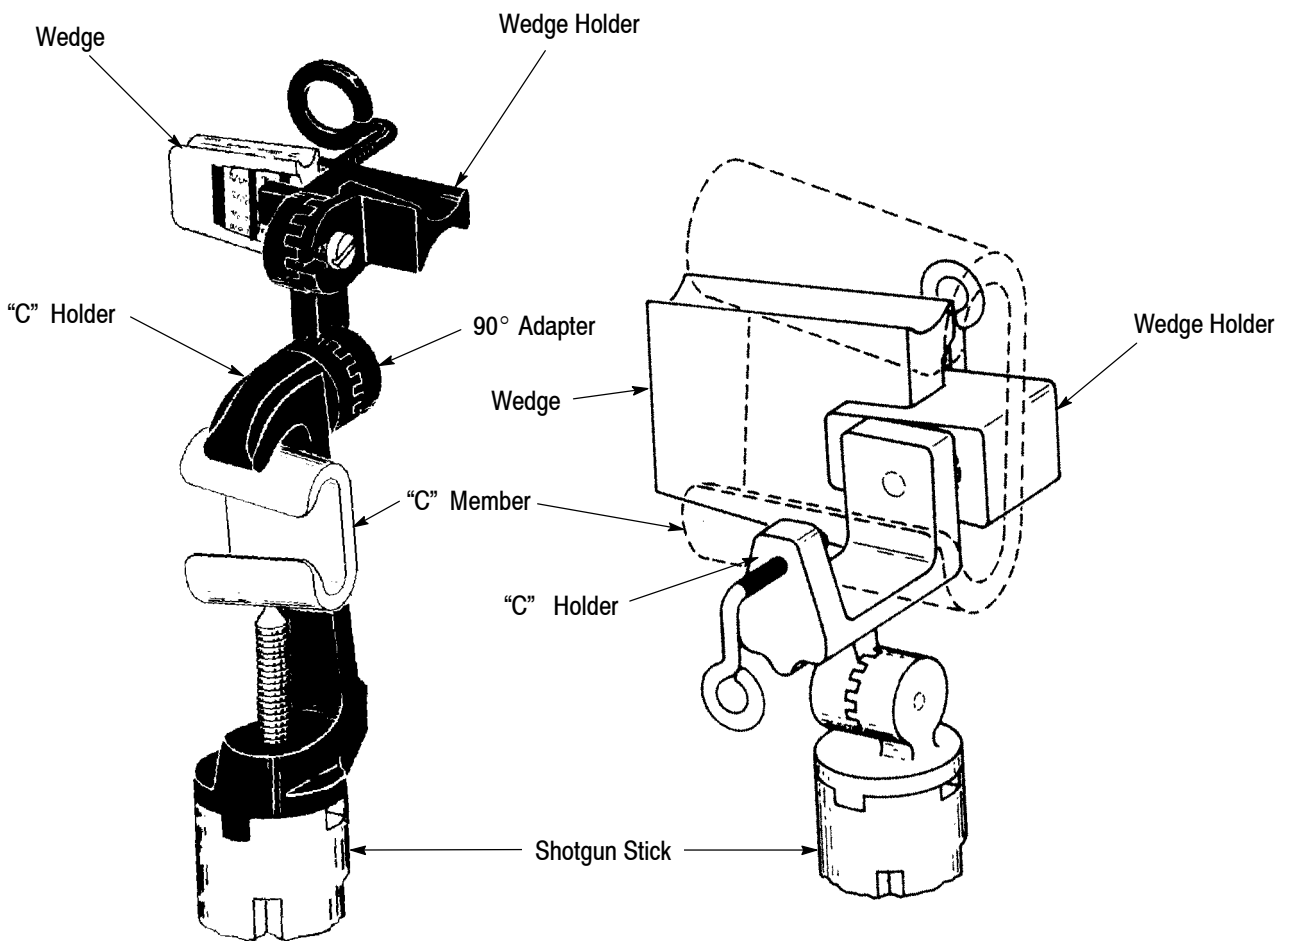

Figure 12
2. Slip the "C" member into the "C" holder and tighten eye-bolt to hold "C" member in place. Align the large groove with the larger wire. Place wide end of wedge in notch of wedge holder and tighten holding bolt. See Figure 12.
2. Place "C" member into "C" holder and tighten eye-bolt to hold "C" member in place. Place the wide end of the wedge into notch of wedge holder, making certain that wedge grooves match the through-line and tap wire sizes. Tighten the holding bolt. See Figure 12.